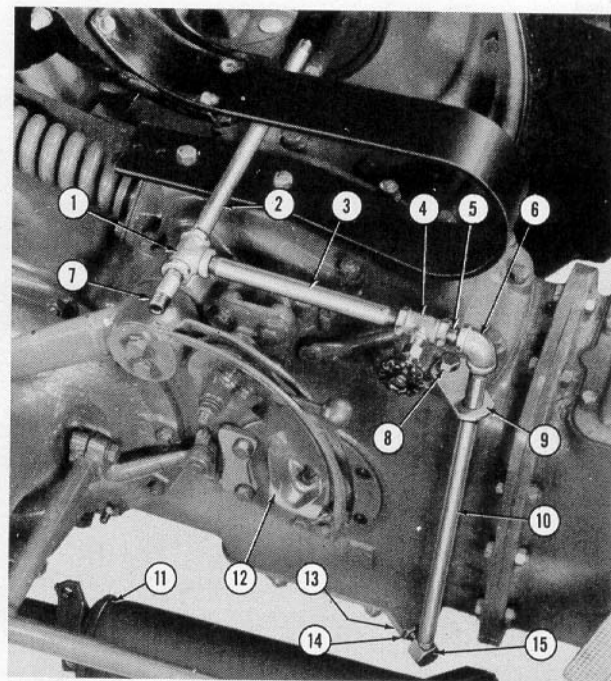

Figure 3
- e. Turn the close nipple (5) into the 90° ell (6) and turn the ell onto the pipe (10). Coat the threads with plumber's compound.
- f. Turn the valve (4) onto the close nipple (5).
- g. Then complete the assembly as shown by turning the $\frac{3}{8}$ x $7\frac{3}{4}$ inch pipe (3) into the valve (4), the tee (1) onto the pipe (3) and the $\frac{3}{8}$ x 2 inch nipple (7) and $\frac{3}{8}$ x 12 inch pipe (2), into the tee.
- h. On all tractors with a serial number below 248,790, install the new safety valve (8N-638) in the tractor hydraulic pump. To do this, remove the inspection plate (12), Figure 3, from the tractor and work through this opening.